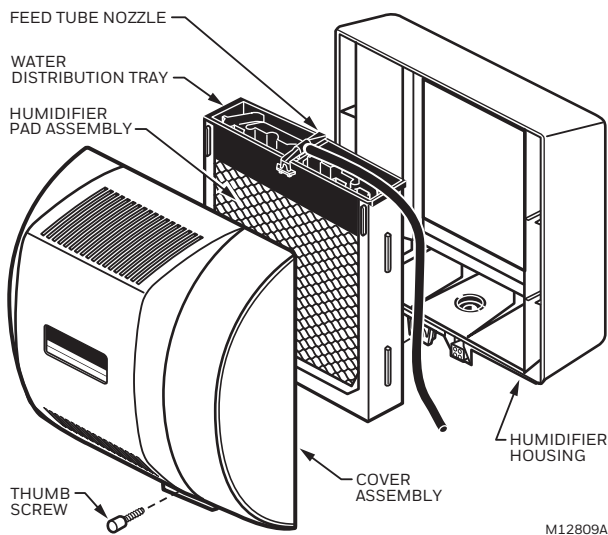

Fig. 3. Disassembling humidifier.
6. Disassemble the humidifier; remove the cover and take out the humidifier pad assembly. See Fig. 3